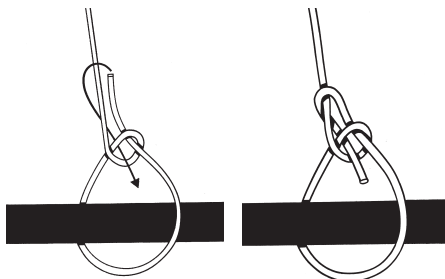
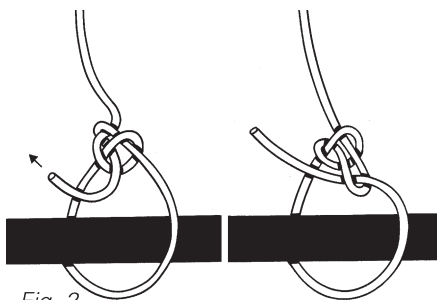

Fig. 1
Fig. 2
**Method one** (tied with an end): Apply a half-hitch to the ring, rail, post or other anchorage (fig. 1), then wrap and tuck the working end as shown (fig. 2). Tighten (fig. 3).
tight sliding knot at the other end. Your lariat is now ready to use (fig. 1). Slide the loop knot along until the single bit of line, called the spoke, is a little more than half the length of the closed loop.
the end of the LOOP between the thumb and first two fingers of one hand, so that your lariat hangs upside-down. Twirl it by drawing small quick circles in the air with your finger tips and a relaxed wrist (fig. 2). See how the cord bends, forming a kind of elbow at the sliding knot, so that the spoke comes up straight and level with the floor. Feel it happening. This is how to spin rope. Use your left or right hand and spin the rope either
The standard bowline (Fig. 1) is a post-bight end-loop knot in that the standing part is tied after the working end is wrapped around the anchor point or passed through the harness (Chisnall, 1995a, 2005). It is possible for the regular bowline to invert or capsize into an overhand slip loop and come undone (Fig. 2). This has led to a number of accidents and deaths. Several decades ago, the now defunct *Off Belay* climbing magazine reported an accident involving bowline failure. When Pam Spence's harness tie-in bowline inverted and untied, she fell to her death at Lover's Leap in Colorado. (I cannot recall the exact issue or date.) There have been other incidents but tracking down all published accounts would take considerable time.